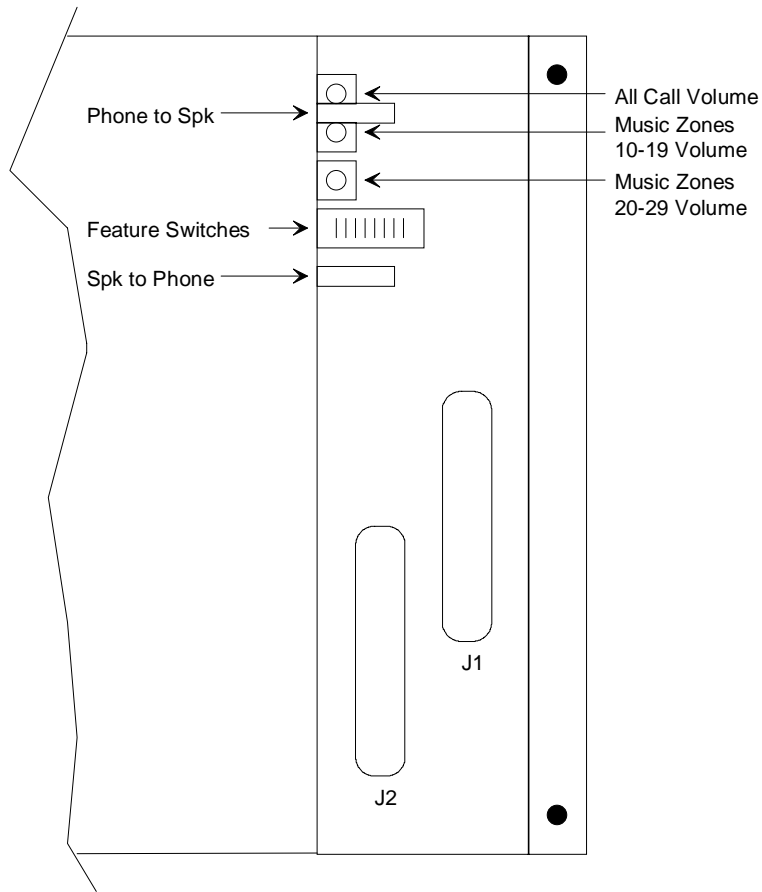

FIGURE 5 - CONTROL AND CONNECTOR LOCATIONS
1. No system operation. 2. No paging at speaker. 3. Paging at speaker but no reply from speaker. 4. No system ringing when the doorplate button is pressed. 5. Background music is not heard at speakers. 6. No all call. 7. No dial tone.	1a. Verify AC voltage is present at the receptacle. 1b. Check the fuse located on the bottom of the unit. If blown replace with a .5amp, 250 Vac fuse. 1c. Verify that 25 pair cable connectors are completely plugged into circuit board connectors. 1d. Refer to Figure 2 and verify all connections. 2a. Check door plate speaker connections. 2b. Refer to Figure 5 and adjust Phone to Speaker volume. 3. Refer to Figure 5 and adjust Speaker to Phone volume. 4. Refer to the Connection Sections and verify all connections. 5. Refer to Music Connection and Setup sections. 6. Refer to Page and Music Level Setup Section. 7. Refer to Table 2 for dipswitch settings.